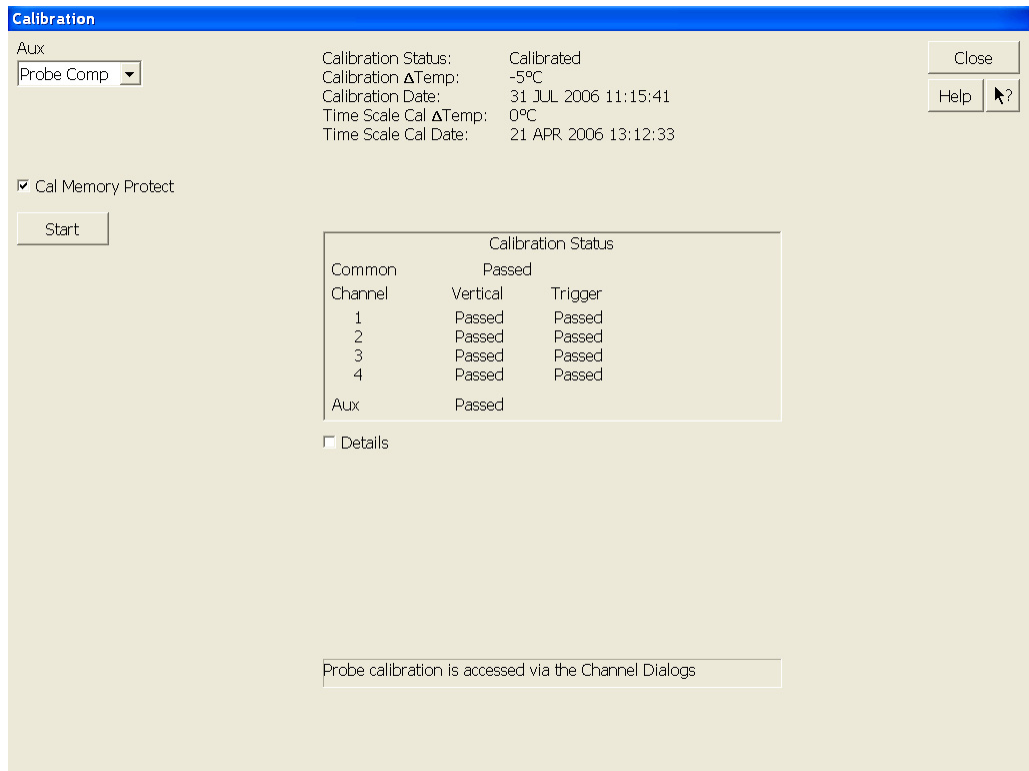

Figure 56 Oscilloscope Calibration Window
- 4 Referring to Figure 56 below, perform the following steps to start the calibration: